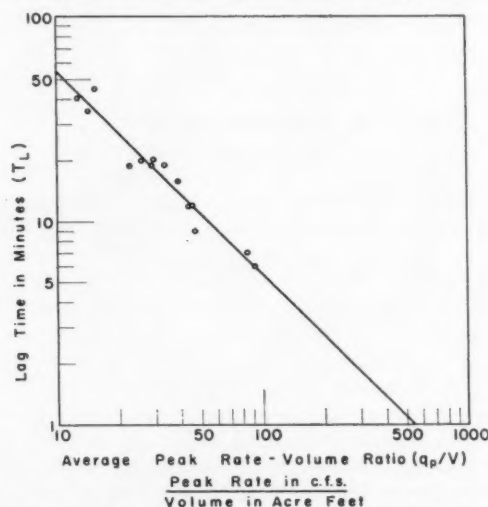

Fig. 5 Correlation of peak rate-volume ratio with lag time
Lag time was found in this study to be a major determinant of hydrograph shape, and it is logical to express the ratio of the peak rate of runoff (q_p) to the total runoff volume (V) as a function of lag time. Fig. 5 shows this corre-